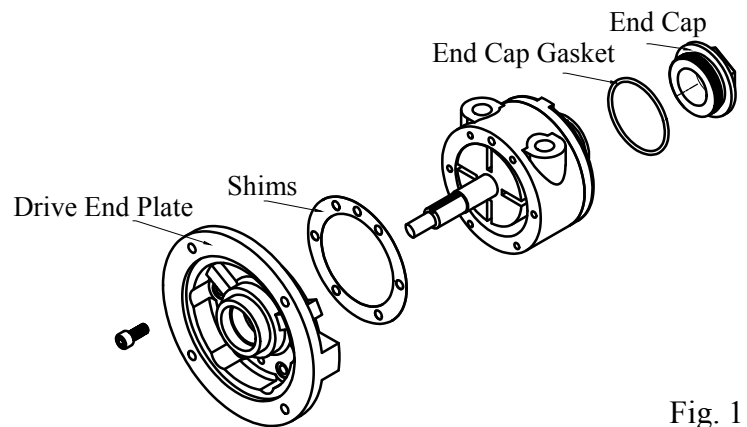

Fig. 1
- Use the proper sized wrench to carefully remove the end cap from the motor with approximately 25 ft-lb torque. Then remove the end cap gasket. Refer to fig. 1.
- Remove the drive end plate. Refer to fig. 1.